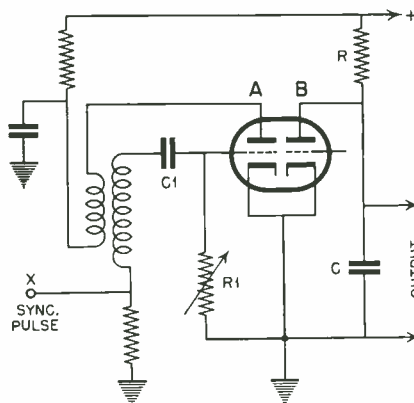
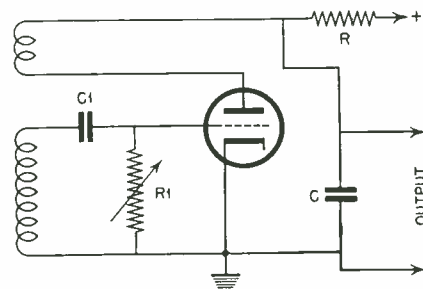
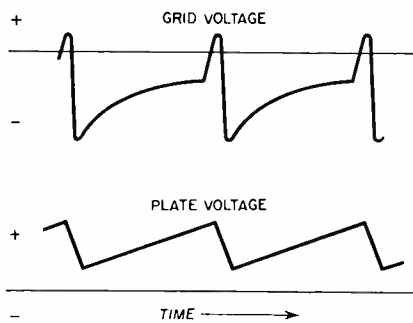

Fig. 2. Blocked-oscillator sweep circuit used in RCA television receivers.
Fig. 3. Single-tube blocked-oscillator sweep circuit, otherwise the same as Fig. 2.
Fig. 4. Voltage waveform of Fig. 3 circuit.
the phase-modulated current contains a carrier  $[A \cos (\omega t + \theta)]$  of constant amplitude, frequency and phase; two first-order sidebands  $[AK\theta \sin (\omega t + \theta) \cos pt]$  essentially similar to those of expression (2); together with a number of higher order sidebands consisting of the carrier modulated by harmonics of the signal frequency. See Fig. 2. Here it may be recalled that:
The quantity  $M$  is usually referred to as the modulation index and may be compared, with certain reservations, to percentage modulation in amplitude modulation. Of course the modulation index can be and frequently is greater than unity, whereas percentage modulation ( $K$ ) never exceeds unity. Like phase-modulated currents, frequency-modulated currents consist of several sets of sidebands. See Fig. 3.
Fig. 3. Signal distribution for frequency-modulated wave with constant frequency variation for two modulation frequencies. Frequency deviation constant. Only important energy-bearing sidebands shown.
Fig. 2. Signal distribution for phase-modulated wave with constant phase variation for two modulation frequencies. Phase deviation constant. Only important energy-bearing sidebands shown.
Several variations and refinements of this system are in use. In Fig. 2, it is shown how this arrangement is employed in the RCA television receivers TRK-9 and TRK-12.
It is possible to have the two jobs which are performed by tubes *A* and *B* in Fig. 2, done by a single tube, as in Fig. 3. The same tube serves both as oscillator and as discharge tube. The action is practically the same as described above. Condenser *C* charges and is periodically discharged as the tube breaks into oscillation. Waveforms of the grid voltage and plate voltage are shown in Fig. 4.